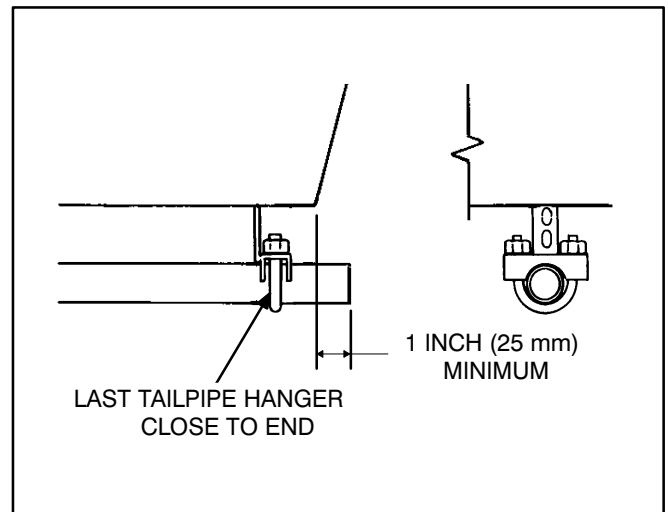

FIGURE 8. TERMINATING THE EXHAUST TAILPIPE
6. Do not terminate the tailpipe underneath the vehicle. Extend it a minimum of 1 inch (25 mm) beyond the perimeter of the vehicle (Figure 8). Support the end of the tailpipe such that it cannot be pushed inward and up under the skirt of the vehicle.
11. In “high-mount” applications (Model HDKAT and HDKAU), the exhaust tailpipe must be routed down and underneath the vehicle and terminate at least 1 inch (25.4 mm) beyond the perimeter of the vehicle (Figure 8). The tail pipe may be routed inside the hot exhaust duct (Page 10), but not through the interior of the vehicle. The tail pipe must be visible and accessible along its entire length for inspection and replacement.